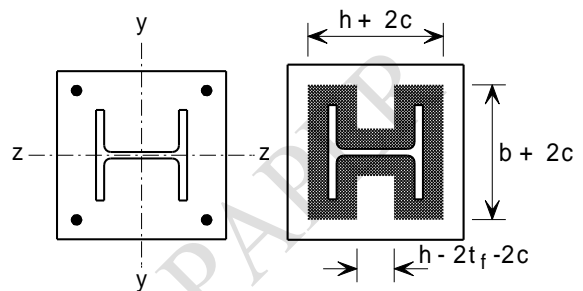

Figure Q2
b) Figure Q2 shows a column base plate supporting an internal steel column with a size of: 254 × 254 × 73 UKC in S275 steel.
Where c is the cantilever outstand of the effective area, as shown in Figure Q2.